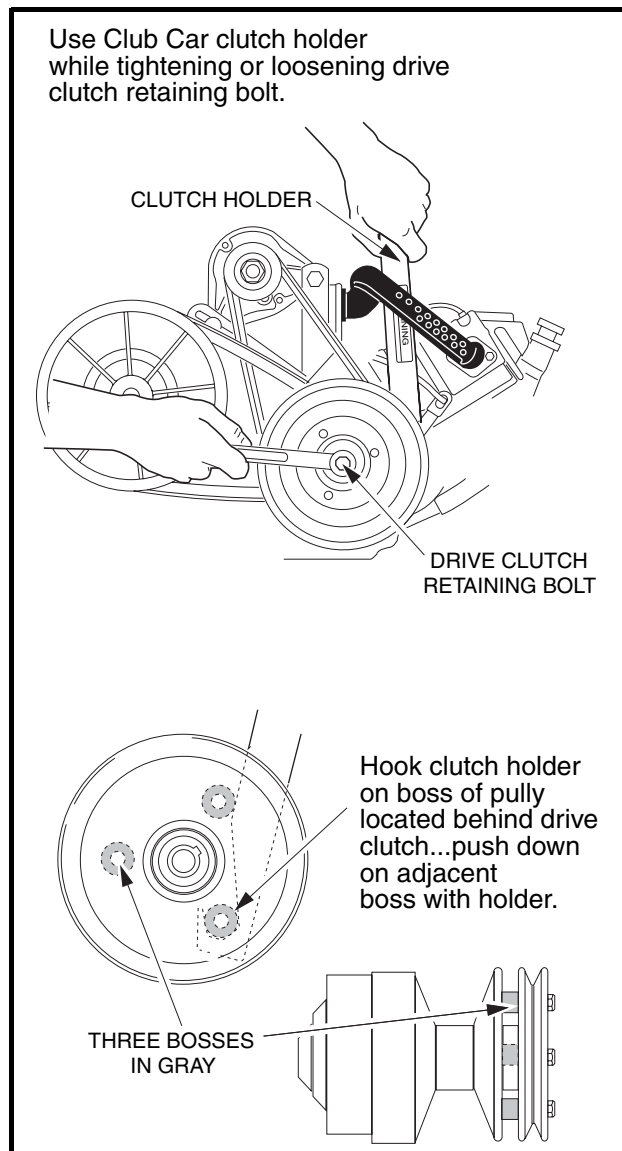
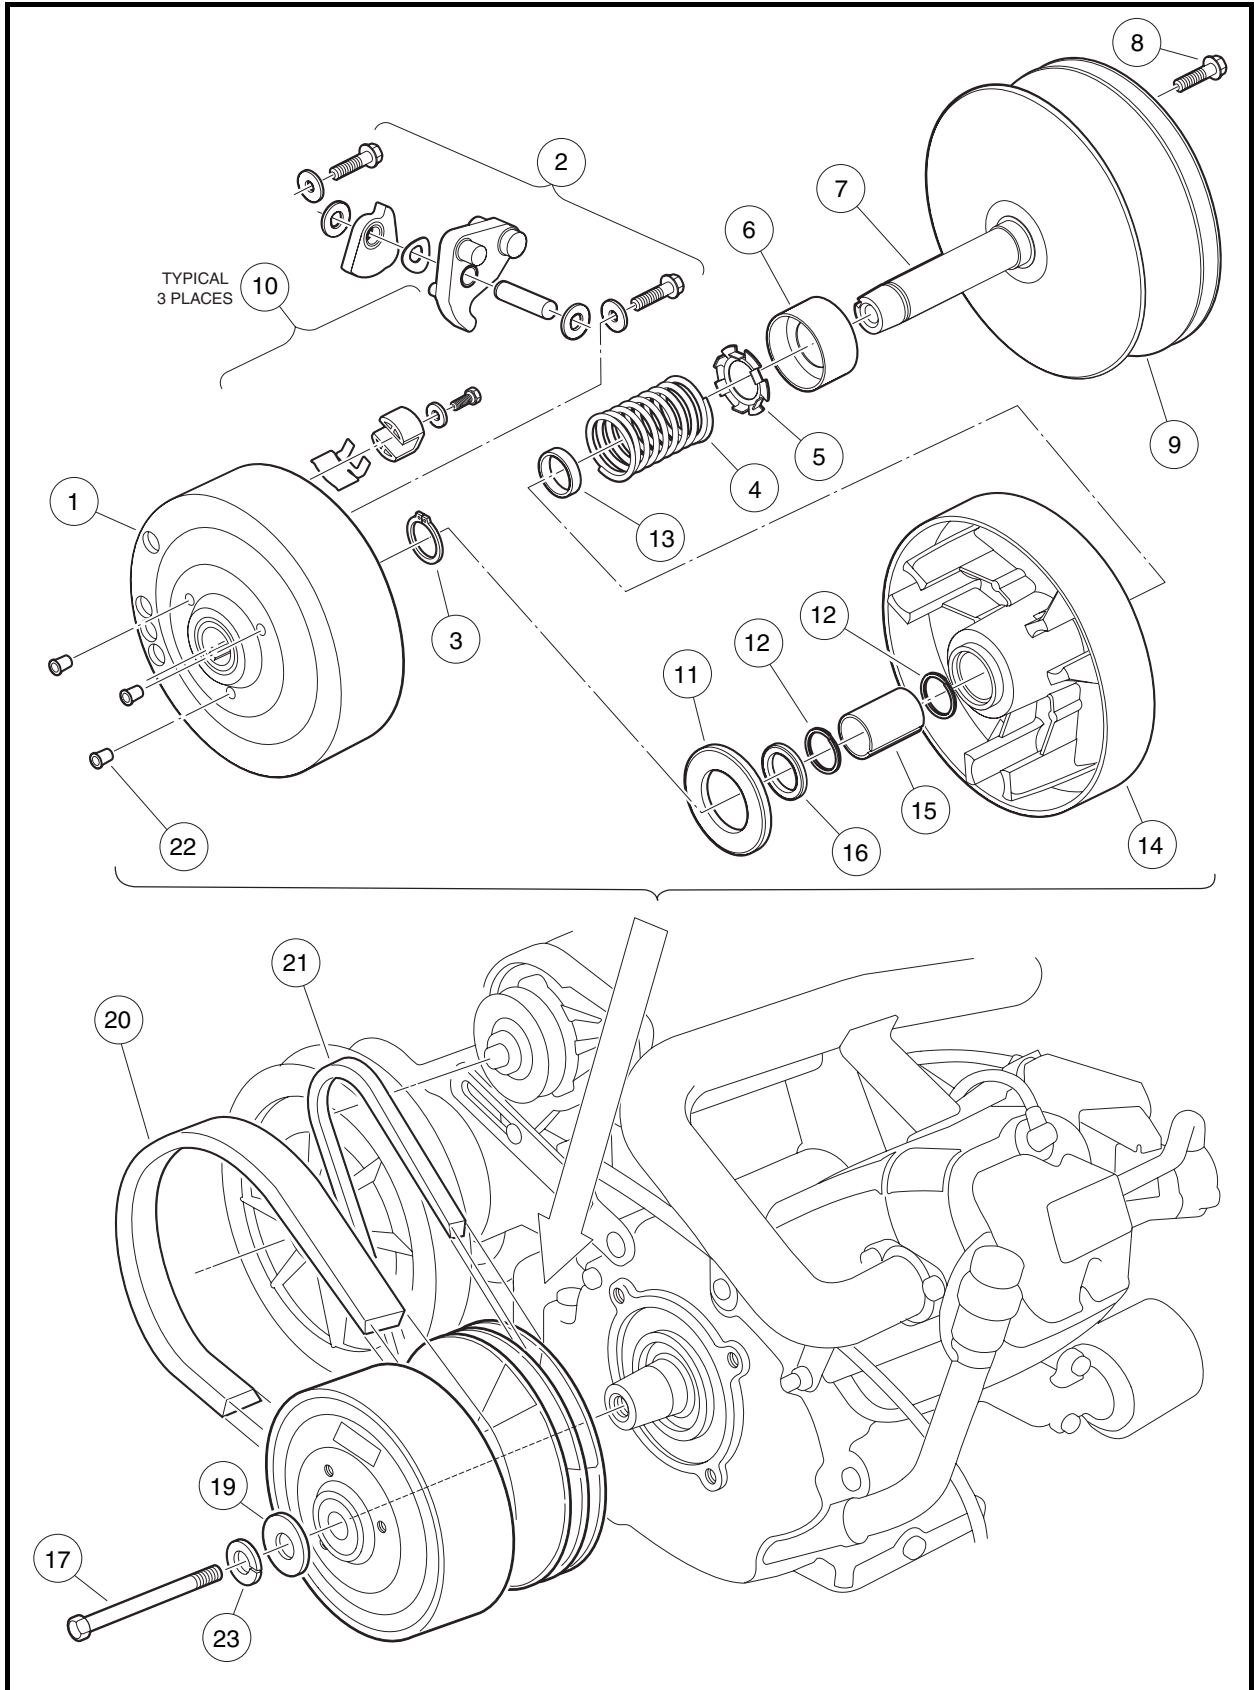
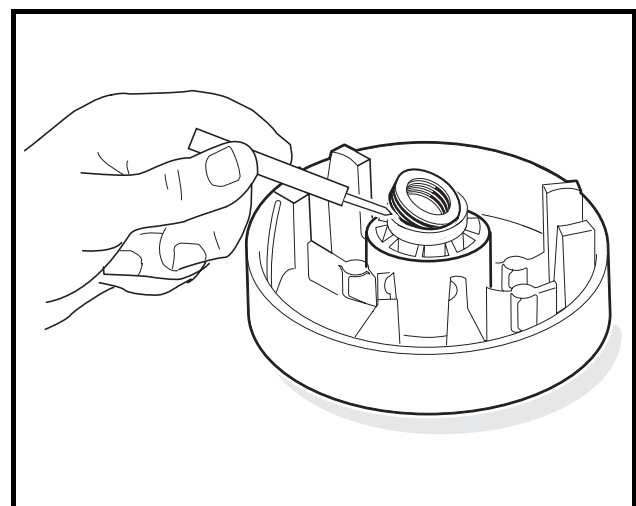

Figure 17-3 Loosen Retaining Bolt
Figure 17-7 Drive Clutch Assembly
Figure 17-15 Spiral Back-up Rings
3. If cleaning the driven clutch does not solve the problem, disassemble and thoroughly clean all parts of the drive clutch. Be sure to clean the plastic drive buttons (10) (**Figure 17-7, Page 17-6**).
6. Remove the drive clutch retaining bolt (17) and mounting washer (19) (**Figure 17-7, Page 17-6**) See also **Figure 17-3, Page 17-4**. See following **NOTE**.
- Use only a dry cloth to lightly wipe the shaft of the fixed face assembly (7) (Figure 17-7, Page 17-6). Do not use a brush or steel wool. These will damage the surface of the shaft.
2. Remove the drive clutch hub (1) (Figure 17-7, Page 17-6):
- 2.1. Remove the plugs (22) from the clutch puller attachment holes (Figure 17-7, Page 17-6).
3. Remove the thrust washer (11) from the moveable face (14) (**Figure 17-7, Page 17-6**).
6. Remove the retaining ring (3) from the shaft of the fixed face assembly (7) and slide the moveable face (14) off the shaft (**Figure 17-7, Page 17-6**). See following **NOTE**.
NOTE: If the moveable face is removed from the hub of the fixed face, the spiral back-up rings (12) must be replaced with new ones (**Figure 17-7, Page 17-6**).
7. Remove the spacer (16), spring (4), and retainer (5). The spring retainer can be removed from the spring if necessary (**Figure 17-7, Page 17-6**).
9. Use a scribe or small pick to remove the spiral backup rings (12) from each end of the bore in the fixed face assembly (**Figure 17-7, Page 17-6**). See also **Figure 17-15, Page 17-9**. Discard the rings.
1. Inspect the idler bearing (6) for smooth rotation or seal damage (**Figure 17-7, Page 17-6**). See following **NOTE**.
2. Inspect the bore of the moveable face assembly (14) for scarring or wear. The moveable face assembly must be replaced if the bore is worn to a diameter of 0.883 inch (22.4 mm) or larger (**Figure 17-7, Page 17-6**).
3. Inspect the steel shaft (7) on the fixed face assembly. There should be no measurable wear anywhere on the shaft. Replace the shaft if it is worn, scratched, or damaged.
4. Inspect the thrust washer (11) for wear. If it is worn more than 0.030 inch (0.76 mm), turn it over or replace it with a new one.
5. Inspect the primary weights (2) and the hub casting for wear. If the primary weights show signs they are touching the casting, the tips of the weights have worn beyond specification and they must be replaced.
6. Inspect the pins on the primary weights (2). There should be no measurable wear. Replace them if they are worn, scratched, or damaged.
1. Press idler bearing (6) onto the shaft of the fixed face assembly (7). Press on the inner race of the bearing only. Make sure that the cup side of bearing is facing away from the fixed face (**Figure 17-7, Page 17-6**).
2. Using needle nose pliers, install the spring retainer (5) onto the spring (4).
3. Install the spring (4) and retainer (5) into the cup of the idler bearing (6).
4. Install the spacer (13) onto the shaft of the fixed face.
5. Install a new spiral backup ring (12) in each end of the bore of the moveable face assembly (14).
6. Install the moveable face assembly (14) onto the shaft of the fixed face assembly (7).
- 6.2. Install the retaining ring (3) (**Figure 17-7, Page 17-6**).
12. Install the 1/4-20 bolts and washers (2) and tighten them to 10 ft-lb (13 N·m) (**Figure 17-7, Page 17-6**).
16. Install the thrust washer (11) onto the moveable face assembly (**Figure 17-7, Page 17-6**).
17. Install the hub assembly (1) on the moveable face assembly and align the match marks made before disassembling the clutch. Press the hub assembly on by hand.
1. Place the drive clutch assembly on the crankshaft taper. Position the mounting washer (with the green side facing out) on the bolt (17) and start the bolt into the crankshaft (**Figure 17-7, Page 17-6**). See following **NOTE**.
2. Tighten the drive clutch retaining bolt (17) to 25 ft-lb (33.9 N·m) (**Figure 17-7, Page 17-6**).